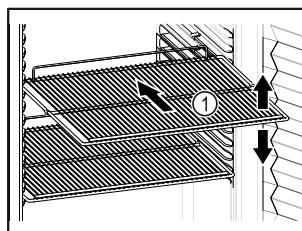

Fig. 65 Example illustration
- If there are adjustable shelves Fig. 65 (1), position them as required.